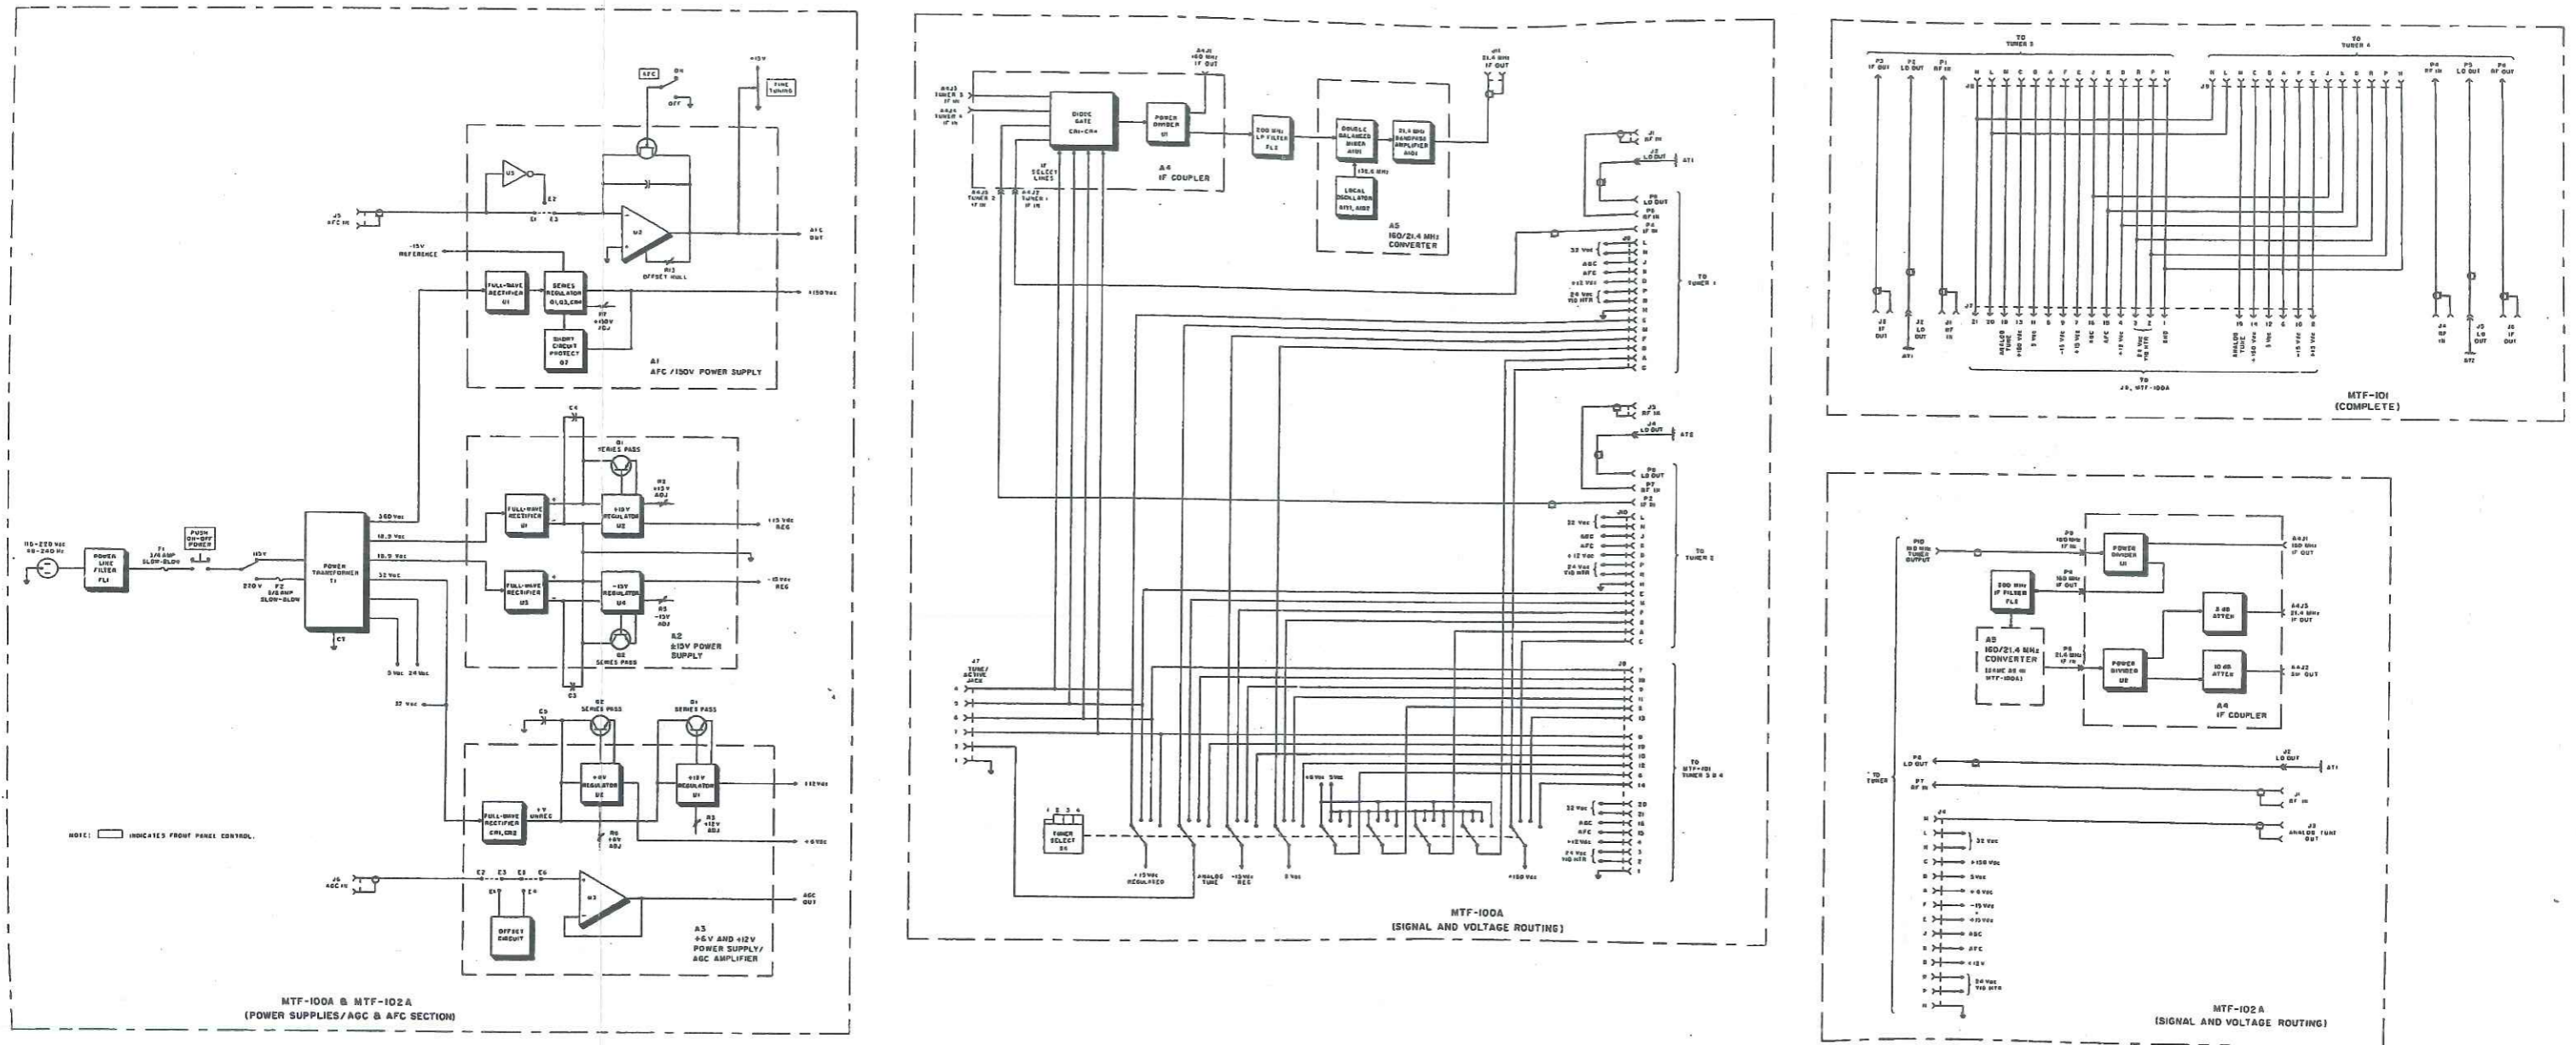

Figure 2-1. Type MTF-100A, MTF-101, and MTF-102A Microwave Tuning Frames, Functional Block Diagram.
| Figure 2-1 | Type MTF-100A, MTF-101, and MTF-102A Microwave Tuning Frames, Functional Block Diagram | 2-1 |
A complete description of the circuits in the Type MTF-100A, -101, -102A Microwave Tuning Frames is presented in the following paragraphs using the functional block diagram Figure 2-1, and the schematic diagrams, Figures 6-1 through 6-10. The unit numbering method is used for subassemblies and components which means that a prefix is included before the usual class letter and number of the item (such as A1R1 and A4R8). These prefixes are omitted on the illustrations and in the text except in those cases where confusion might result from their omission.
2.2.1 As shown in Figure 2-1, ac power is switched to power transformer T1 after RFI filtering by FL1. The 115/220 V Select Switch, S2, switches the tapped transformer primary to match the applied input power source and also selects the appropriate fuse for transformer protection. Voltages from T1's secondary are applied to three subassemblies where after rectification, filtering, and regulation, produce +150 V dc, +15 V dc, +12 V dc, +6 V dc, and -15 V dc. T1 also provides a 24 V ac YIG heater supply and a 5 V ac supply. The routing of the supply voltages within the frames is described in following paragraphs.
2.2.4 MTF-100A Voltage Routing. - The MTF-100A Microwave Tuning Frame has the capability of routing operating voltages to one of four tuning heads. As shown in Figure 2-1, interface connectors J8 and J10 connect all supply voltages to TUNER 1 and TUNER 2 respectively. Interface connector J9 routes all of the supply voltages to TUNER 3 and TUNER 4 (mounted in a MTF-101 Microwave Tuning Frame). TUNER SELECT switch S4, a 3-deck rotary wafer switch, is used to switch operating voltages to the tuning head selected by the operator. Some of the supply voltages are hardwired in the frame to the tuning head interface connectors. These voltages (+12 V dc, 32 V ac, and YIG heater 24 V ac) are constantly applied to all tuning heads as long as the MTF-100A power is on and maintains the heads in a standby condition. A section of wafer switch S4 provides standby filament voltage for tube-equipped tuning heads. When not on-line, the standby tuners receive 5 V ac via the +6 V dc filament supply lines.
2.2.5 MTF-100A Signal Routing. - Distribution of RF, LO, AGC, and AFC signals within the MTF-100A is accomplished by wiring shown in Figure 2-1. RF signals from the antenna, applied to RF IN jack J1, go to TUNER 1 via connector plug P5. Likewise, RF signals fed to RF IN jack J3 go to TUNER 2 via connector plug P7. A sample coupled from the LO in TUNER 1 is routed to LO OUT jack J2 which is fitted with a coaxial termination plug, AT1. Similarly, a sample coupled from the LO in TUNER 2 is coupled to LO OUT jack J4 and coaxial termination plug AT2. The termination plugs serve to properly maintain the LO output lines with 50 Ω impedances and prevent stray radiation. Note that RF and LO signals for TUNER 3 and TUNER 4 are not routed through the MTF-100A Microwave Tuning Frame because connection is made directly at the MTF-101. AFC and AGC signals are carried to all installed tuning heads by interface connectors J8, J9, and J10. These interface connectors also return the analog tuning voltage from each tuning head to TUNER SELECT switch S4. The selected analog voltage is available from S4 at the TUNE/ACTIVE JACK J7. This jack also provides for external monitoring of the selected tuner by carrying +15 V dc on one of the select logic pins 4 through 7. In addition, +15 V dc is routed from S4 on one of the IF select lines to the A4 subassembly. One of the IF select lines will be high in accordance with the tuner selected. The 160 MHz IF of each tuning head is brought in to IF coupler subassembly
2.2.6 MTF-101 Voltage and Signal Routing. - AFC, AGC, Analog Tune, and all operating voltages are distributed to TUNER 3 and TUNER 4 installed in the MTF-101 at interface connector J7 of this unit. An interconnecting cable assembly joins J7 on the MTF-101 with J9 on the MTF-100A for interfacing power and tuner control. RF, LO, and IF signals are directly routed to the rear panel BNC connectors as shown in Figure 2-1.